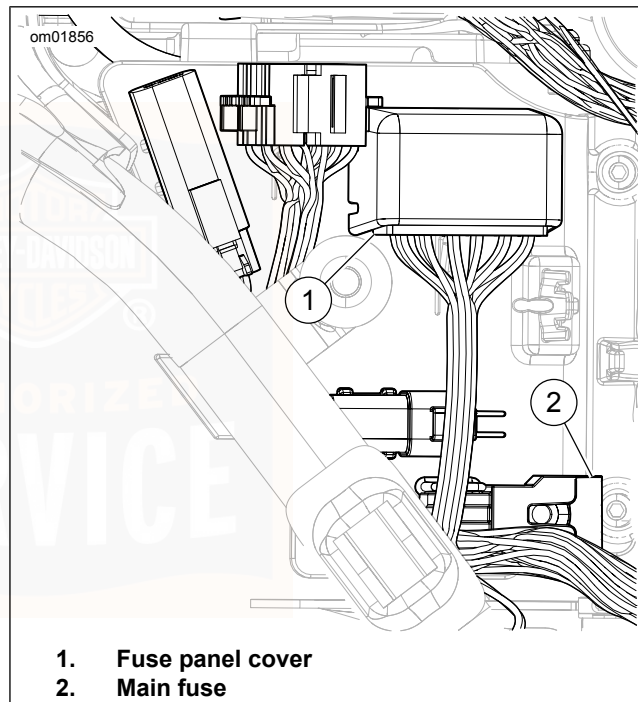

Figure 49. Fuse Panel and Main Fuse Location
3. See Figure 49. Remove the main fuse (2).
3. See Figure 49. Remove the fuse panel (1) cover.